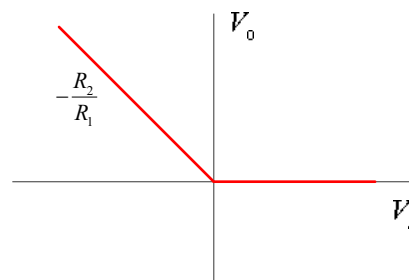

Fig. 3. Transfer characteristics
2. Put the CRO into X-Y mode and connect input signal to X and output signal to Y. Select suitable volt per division in both channels and observe the characteristics. The display should look similar to Fig 3.